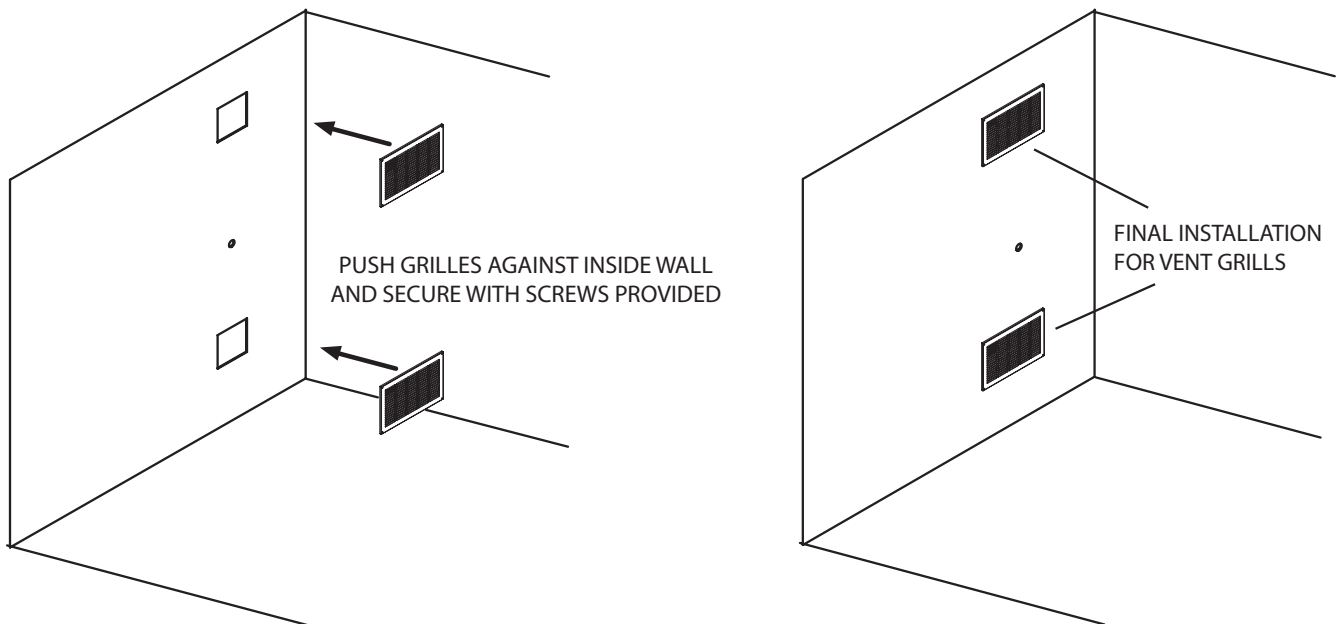

Figure 22. Vent grill installation
n. Attach the indoor vent grills with the screws provided as shown in Figure 22.